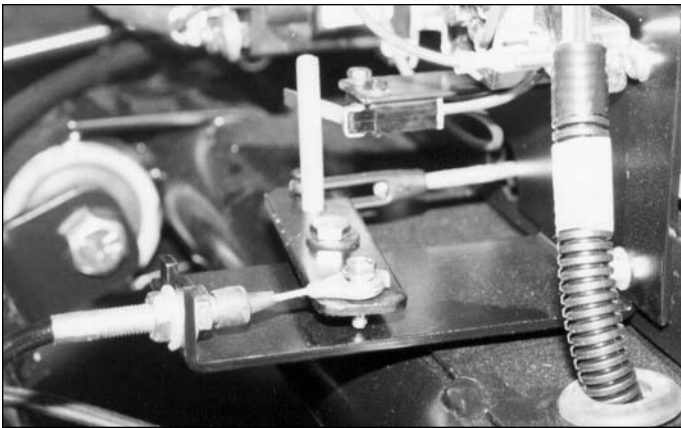

Figure 2 - Accelerator Micro Switch
3. If micro switch requires adjustment, loosen two screws mounting accelerator micro switch to micro switch bracket. With screws loosened, micro switch will move and rotate for adjustment. If greater range of adjustment is required, accelerator linkage rod length can be adjusted. See Figure 2.